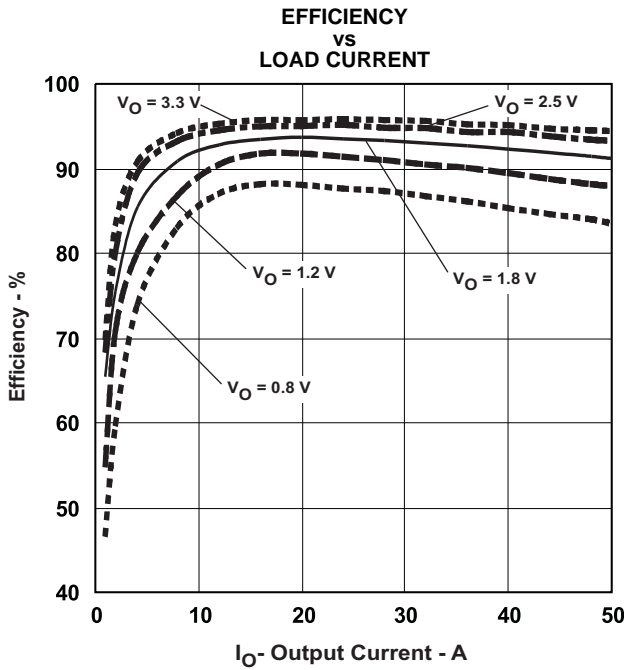
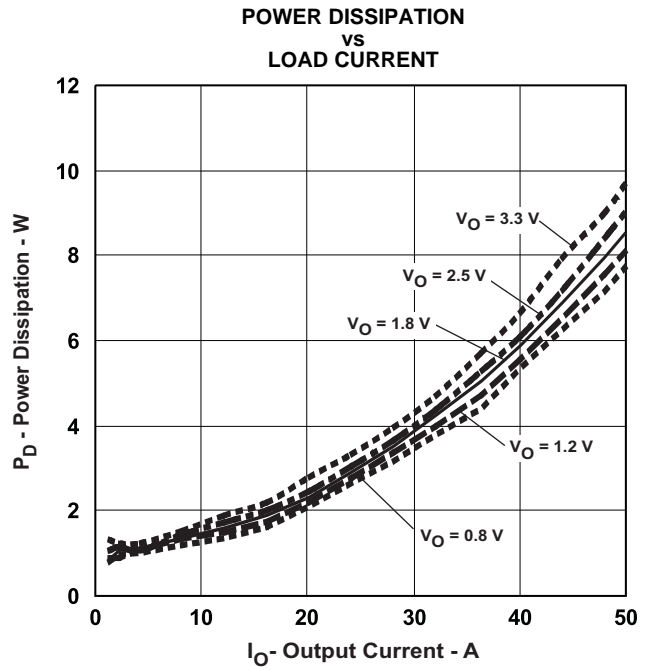

Figure 5.
Figure 6.
- (1) The electrical characteristic data has been developed from actual products tested at 25C. This data is considered typical for the converter. Applies to Figure 5 and Figure 6.